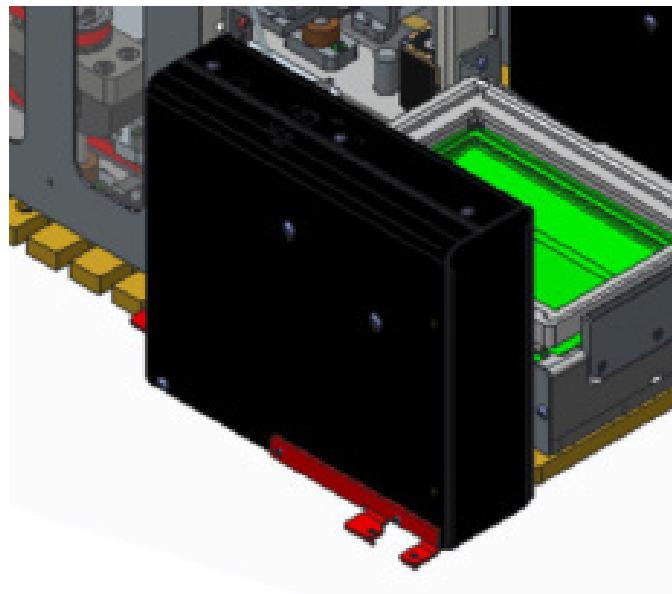

Figure 4-17: Microlab VANTAGE reagent pump bracket
**All integrations use an adapter plate to attach to the deck.** The adapter plate can integrate up to two [MPE]2 devices, depending on their configuration. An [MPE]2 with a Reagent Fill Module requires an adapter plate with a cutout. If an adapter plate with one cutout (shown in Figure 4-17) for a reagent pump is used, then an Evaporator Module or a second [MPE]2 without a Reagent Fill Module may be placed on the plate.